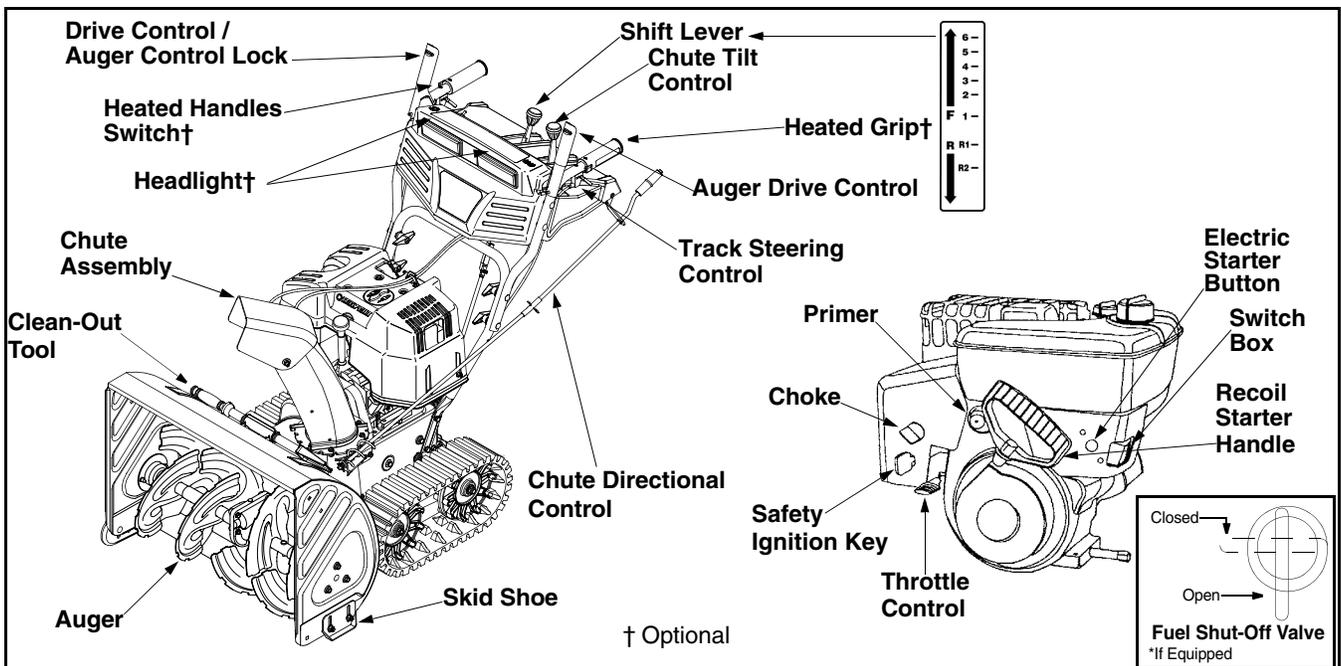

Figure 6
The drive control is located on the right handle. Squeeze the drive control to engage the wheel drive. Release to stop. See Figure 6.
The auger drive control is located on the left handle. Squeeze the control grip to engage the augers. Release to stop the snow throwing action. The drive control must also be released in order to stop auger. See Figure 6.
The shift lever is located in the center of the handle panel and is used to determine both ground speed and direction of travel. It can be moved into any of eight positions. See Figure 6.
This switch is located on the right side of the snow thrower dash panel. To activate the heated handles, toggle the switch to the right to generate heat within the handle grips. Toggle the switch to the left to the OFF position after using the snow thrower. See Figure 6.
The left and right track steering controls are located on the underside of the handles and they are used to assist in steering the snow thrower. Squeeze the right track control when turning right, squeeze the left control when turning left. Operate your snow thrower in open areas until you become familiar with these controls. See Figure 6.
The throttle control is located on the engine. It regulates the speed of the engine and will shut off the engine when pushed down completely. See Figure 6.
On models so equipped, the fuel shut-off valve, located under fuel tank, controls fuel-flow from the fuel tank to the engine. See Figure 6.
The safety ignition key must be fully inserted and snapped in place before the unit will start. Remove the ignition key to prevent unauthorized use of equipment. See Figure 6.
- Move throttle control up to FAST position. Insert ignition key into slot and snap in place. See Figure 6. Be certain it snaps into place. **Do not turn key.**